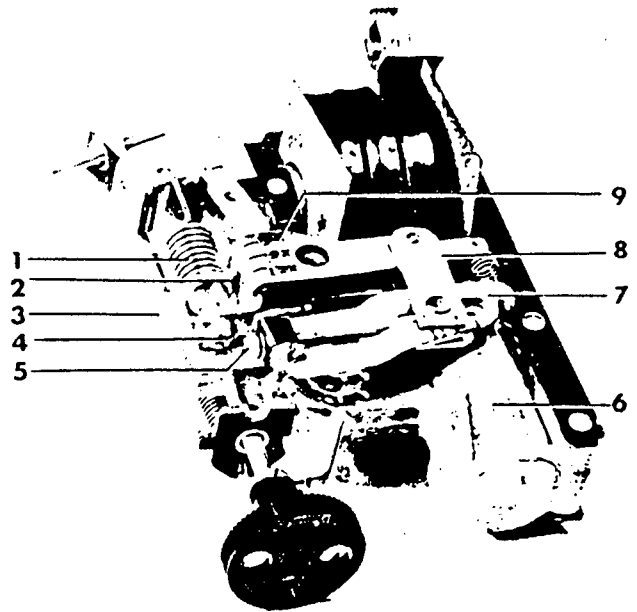

Figure 11. (8024843) EC-2 Overcurrent Trip With Cover Removed.
The tripping time may be varied within the limits shown on the characteristic curves by turning the time adjustment screw (5), Figure 11. Turning in a clockwise direction increases the tripping time;
counter-clockwise motion decreases it. The dashpot arm (7), Figure 11 is indexed at four points, maximum -  $2/3$  -  $1/3$  - minimum from the left, as viewed in Figure 11. When the index mark on the connecting link (8), Figure 11, lines up with a mark on the dashpot arm, the approximate tripping time as shown by the characteristic curve is indicated. The 1A and 1B characteristic devices are shipped with this setting at the  $2/3$  mark and the 1C characteristic at the  $1/3$  mark. The standard characteristic curves are plotted at the same settings.
Time values are inversely proportional to the effective length of the dashpot arm. Therefore, the linkage setting that gives the shortest time value is the one at which dimension "A" Figure 11, is greatest. The time adjustment screw (5), Figure 11, may be turned by inserting a Phillips head screwdriver through the hole in the front of the case, but if it is desired to relate the linkage setting to the index marks on the linkage it will be necessary to remove the case. This may be done by removing the two mounting screws, one on each side of the case, which may be taken off without disturbing the trip unit itself.
The high set instantaneous pick-up value may have one of the following three ranges: 4 to 9 times coil rating; 6 to 12 times coil rating or 9 to 15 times coil rating. The pick-up setting may be varied by turning the instantaneous trip adjusting screw (4), Figure 11.
Three standard calibration marks will appear on the operating arm at (9), Figure 11, and the value of these calibration marks will be indicated
At the factory, the pick-up point has been set at the nameplate value of the instantaneous trip current. (Usually expressed in times the ampere rating of the trip coil.) The variation in pick-up setting is accomplished by varying the tensile force on the instantaneous spring. Turning the adjustment screw changes the position of the movable nut (2), Figure 11, on the screw. The spring is anchored to this movable nut so that when the position of the nut is changed, there is a corresponding change in the spring load. As the spring is tightened, the pick-up point is increased. The top edge of the movable nut (2), Figure 11 serves as an index pointer and should be lined up with the center of the desired calibration mark, punched slots on operating arm, to obtain the proper instantaneous trip setting.